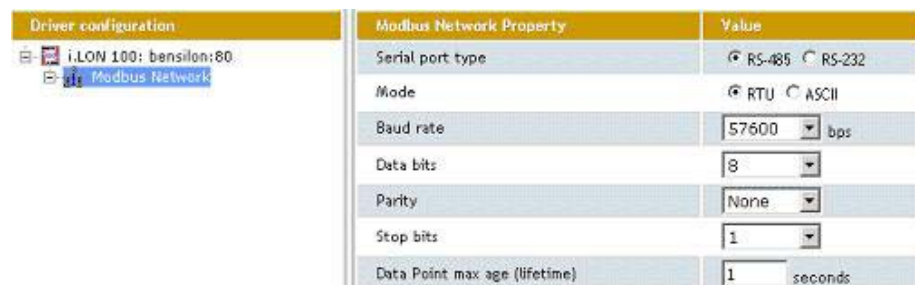

Figure 2.21 Network - Modbus Web Page
2. Map the Modbus devices to data points on the *i.LON 100* Internet Server with the **Network - Modbus** Web page. To open this Web page, point your mouse cursor to **Network**, and then select **Modbus** from the drop-down menu. The **Network - Modbus** Web page opens, as shown in Figure 2.21.